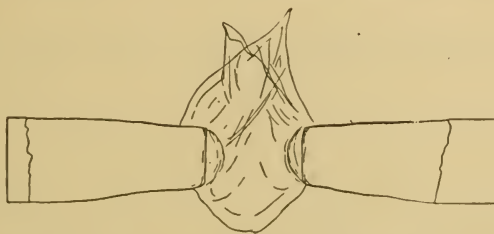

FIG. 92.—8-mm. a-c. high-intensity carbons, overloaded: 90 amperes, 35 volts.
As has already been noted, the copper coat is designed to take care of the current rating of the carbon without undue heating. (123) If the current is too great the copper will melt back too far from the arc, as shown in Fig. 92, whereupon the arc becomes unsteady and is apt